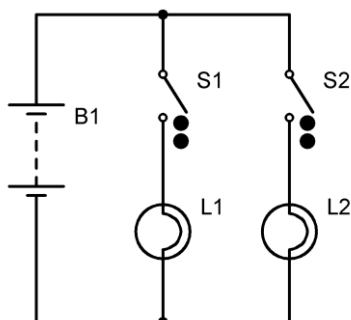

Figure 3 – Series-parallel circuit 2
- c) Identify **ONE** series and **ONE** parallel sub-circuits from the circuit shown in Figure 3 below. Write your answer in the space provided including references to B1, S1, S2, L1 and L2.